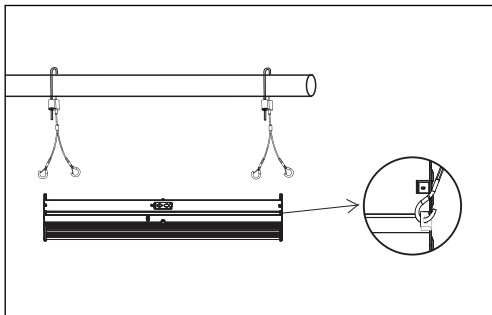

Figure 1
1. Hook the spring buckle on the suspension rope to the installation hole of the lamp. ( Figure 1)